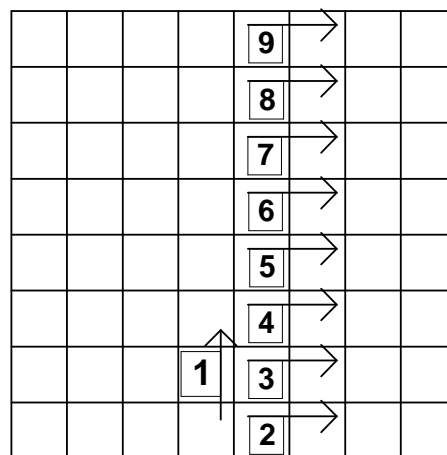

Figure 3.1.1
8. Move control levers forward to start removal. It is recommended to make a single pass in one direction to expose an edge of the material to be removed. Subsequent passes should be made perpendicular to the initial pass. See figure 3.1.1.